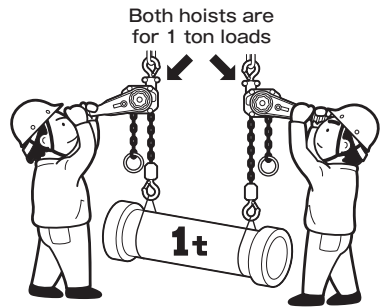
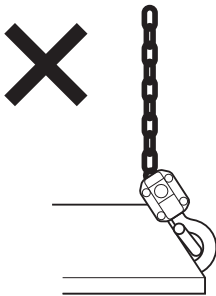
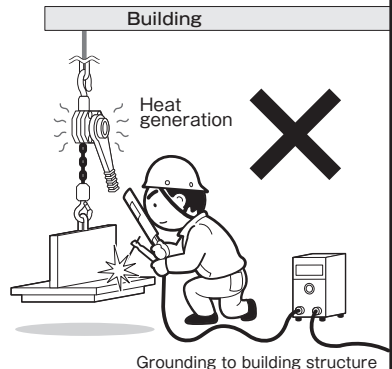

Figure 14
Figure 15
Figure 16
- (11) Never apply loads exceeding the rated load on a single unit of this equipment when performing two-hoist lifting. (Figure 14)
- (12) Never over-wind or over-lower loads.
- (13) Never suspend a load with the tip portion of the hook. (Figure 15)
- (14) When suspending loads from the hook, never operate the hook in such a way that a lateral load is applied to either the top or bottom hooks.
- (15) Do not leave the load suspended for a long time.
- (16) Do not connect the grounding from welding machines to the load chain. (Figure 16)
- (17) Never allow welding electrodes to come in contact with the load chain.
- (18) Do not remove caution labels or nameplates from the unit or use the unit with caution labels or nameplates in an illegible condition.
- (19) Do not use the product if the nameplate affixed to the main unit is illegible.
- (20) Make sure that all personnel are clear of the support load.
- (21) Do not allow sparks from welding, etc. into come in contact with this equipment.
- (22) When lifting or moving a load, notify surrounding workers.
- (23) Never install this equipment without sufficient expertise in the equipment.
- (24) Make sure the location of equipment installation maintains sufficient strength to support the equipment under load.